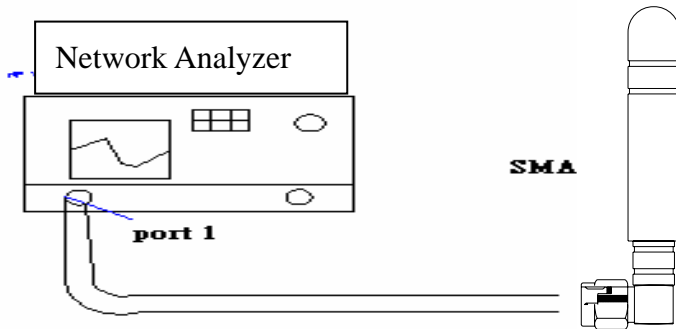

Fig.1
**(1) Reflection Coefficient Measurement :**
- (I) Calibrate the Network Analyzer by one port calibration using O.S.L calibration kits.
- (II) Connect the antenna under test to the Network Analyzer.
- (III) Measure the S11(reflection coefficient) shown in Fig. 1.
- (IV) Generally, the S11 is less than –10dB to ensure the 90% power into antenna and only less than 10% power back to system.